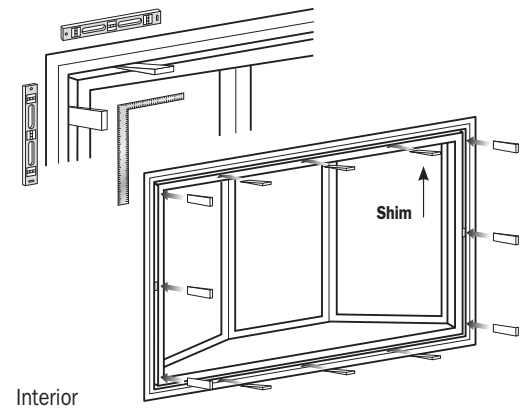

Figure 2
- Shim as needed to make frame square with opening in wall (**Figure 2**).